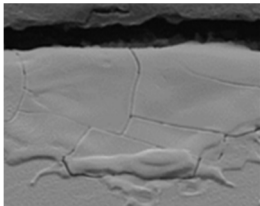

Figure 1. LaB6 surface defect caused by arcing.
However, as cathode runs, (100) face crystalline beauty may suffer various and sundry damages, caused by partial oxidation, arcing, ion bombardment, etc. Fig.1 depicts LaB6 surface defect caused by arcing